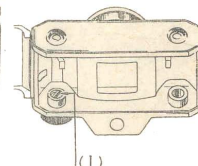

fig. 3
- 1) Push the back lid locking device (A) upwards and open the back lid.
- 2) Raise the film spool locking devices and place the camera so that focusing finder (H) will be on bottom position fig. 3. Put film winding spool (C) so that film spool slit will engage the winding cam (I) located at the opposite end of film winding knob (D) and lock the spool. Turn the knob two or three times and see if the spool will turn smoothly.
- 3) Draw out about 2'' of film leader paper and place the loaded film into film chamber. Insert the end of leader paper into film winding spool (C) and lock the film spool locking device. Then roll one or two times so that film will not slip out.